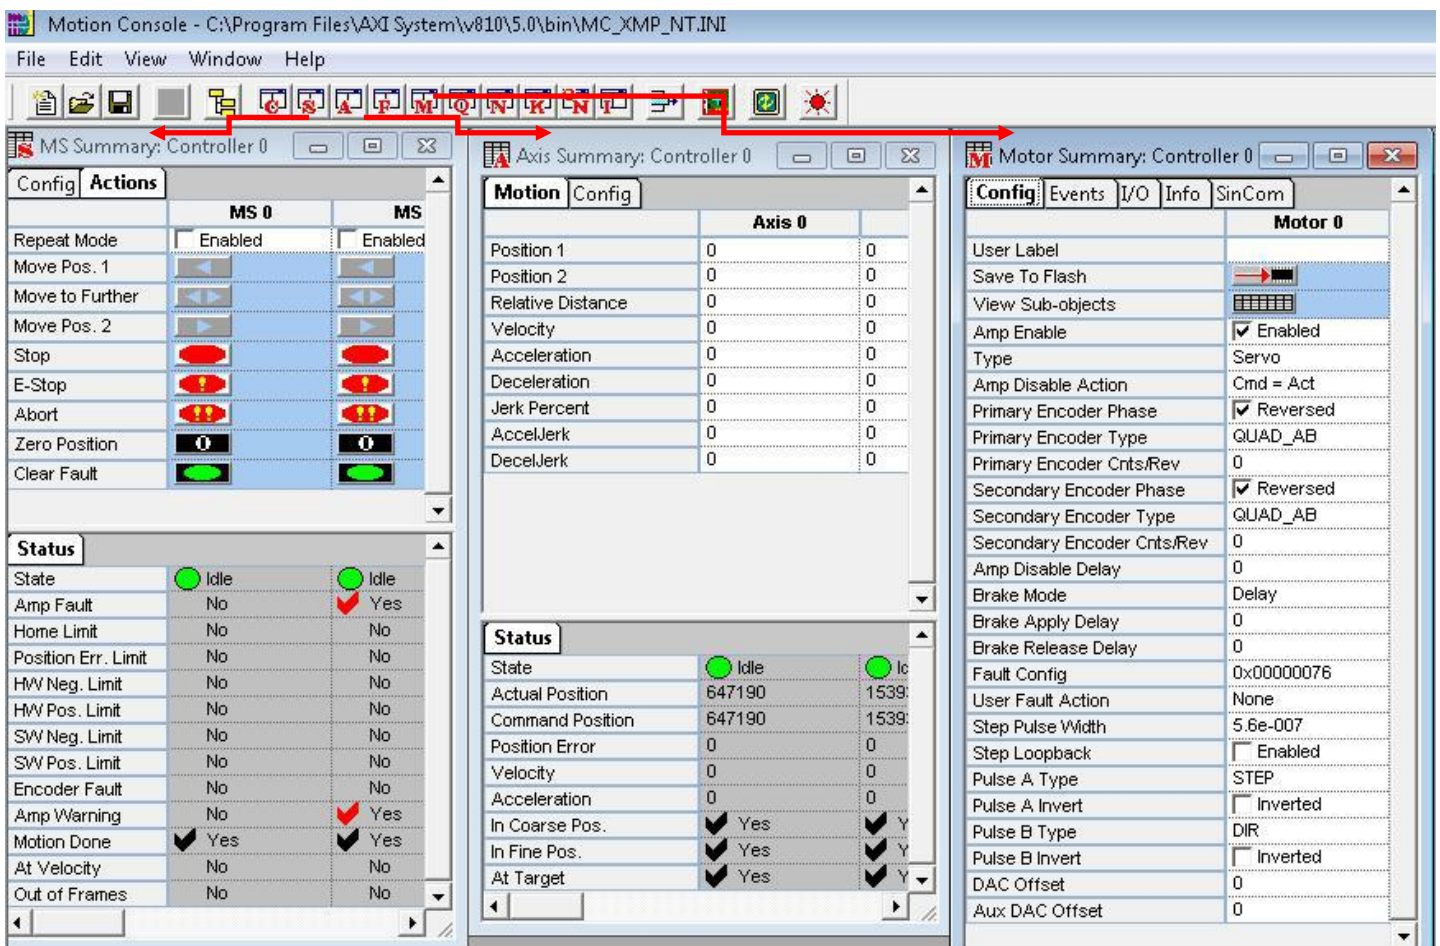

Figure 14 Motion Console tab
24. Ensure this 3 tab is open in the Motion Console tab as shown in Figure 14.